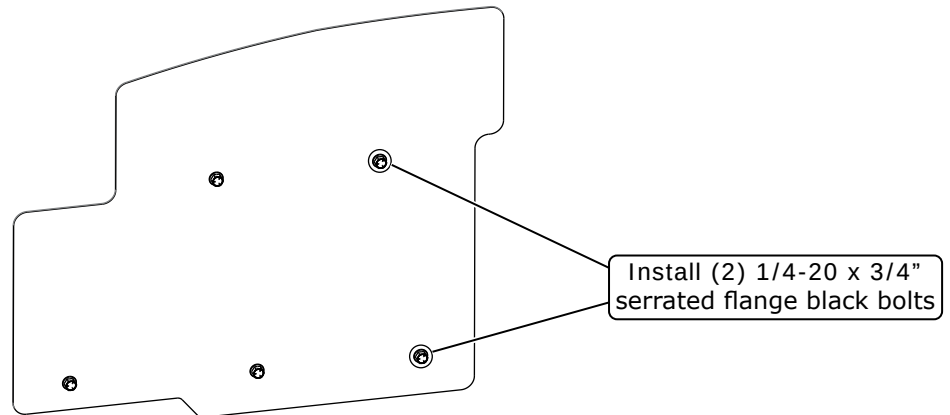

Figure 3
- Once the module is in position and leveled, from the engine compartment, install (2) 1/4-20 x 3/4" serrated flange black bolts (one in the upper mounting hole and one replacing the 1/4-20 full-length stud) (See Figure 3, below).